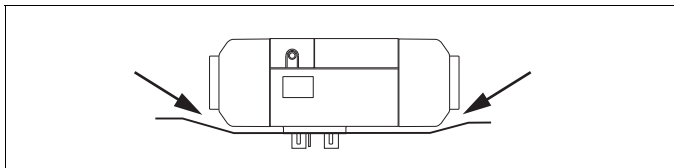

Fig. 7 Ensure ease of movement of all moving parts!
- ▶ Make sure that the casing of the heater is clear, i.e. does not make contact with any other parts, in installed position (see Fig. 7).
see Fig. 3 and Fig. 7